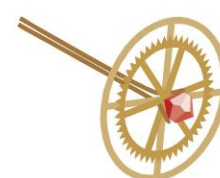

figure 20
- 39** Slide a gear or two onto the wire, threading both wire ends through the gears. If the holes in the gears are too tiny to get wire through, stick the tip of a metal needle file or reamer into the hole and turn it back and forth a few times to make the holes larger (Figure 20).